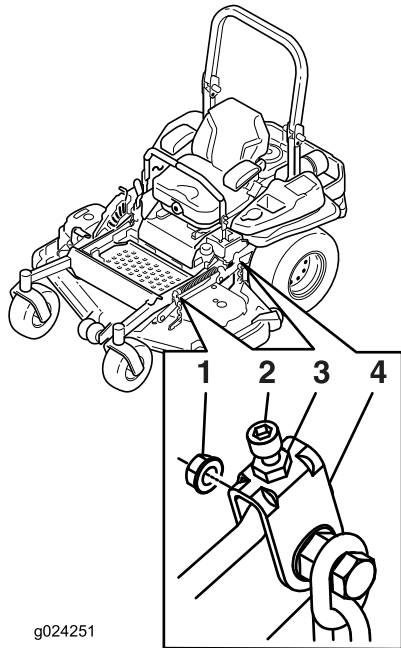

Figure 91
- If needed, loosen the whizlock nut on the side of the yoke and the jam nut on top. Fine tune the screw adjuster by turning it to get 76 mm (3 inches) height (see Figure 91).
15. Fine tune the screw adjuster by turning it to get 8.3 mm (3-1/4 inches) height (Figure 91).